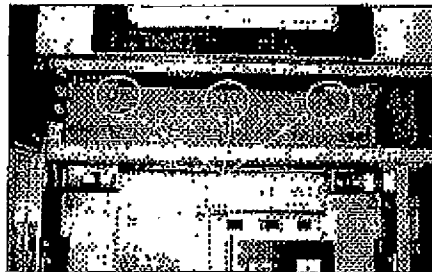

Figure 3-5.2
Step 2: To remove the left hand breaker stop, remove the screw as shown in Figure 3-5.2, and pivot the metal plate forward. Then remove the two screws as shown in Figure 3-5.3 and pull the metal plate to the left and forward.